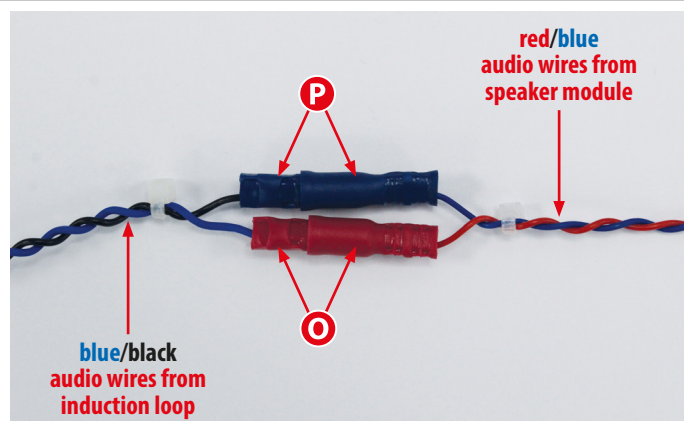

Fig. 19
18. Finally clip the **red** male/female bullet connectors (see **Fig.19, O**) and the **blue** male/female bullet connectors (see **Fig.19, P**) together.
❗ IMPORTANT NOTE: In step 18 above please pay particular attention to the colour coding of the male/female bullet connectors as the audio cable (**blue/black** wires) from the induction loop and the **red/blue** wires from the audio speaker module must be connected based on the **red/blue** colours of the bullet connectors and not based on the colours of the wires, as seen in Fig.19.